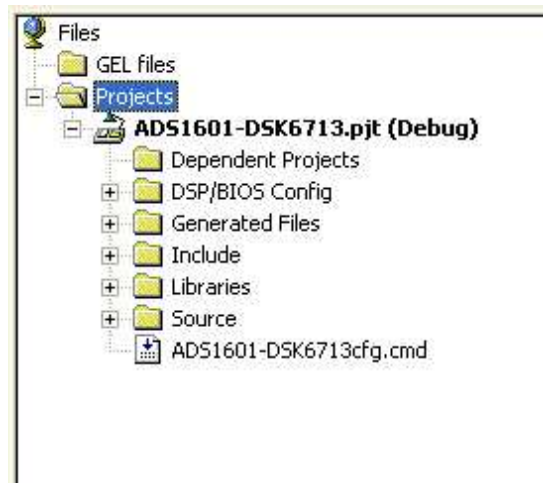

Figure 17. CCS Project View
- Once the project is open, expand the project tree by clicking on the + in front of it and expand the Source Files as well. The project window should then look like the one in Figure 17.